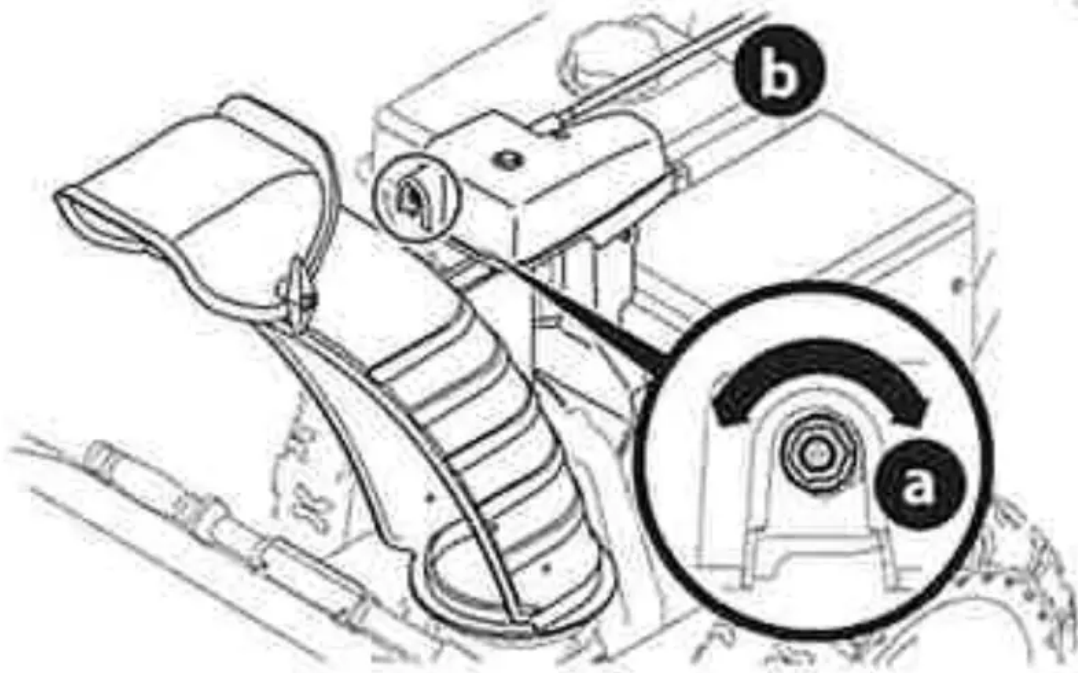

Figure 51
1. To increase preload, tighten hex nut (a) clockwise in M turn intervals. The chute control rod (b) will need to be held stationary when tightening the nut (Figure 51).